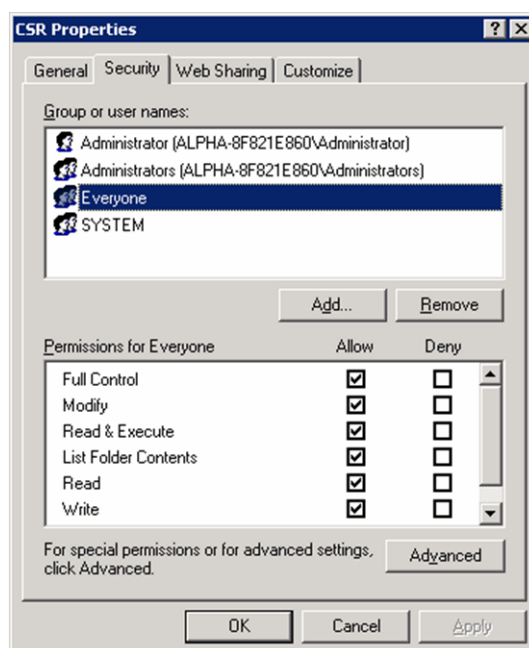

Figure 71: Folder Permissions
- 3 Assign full permission for the user Everyone to the CSR folder (see Figure 71) if required by the security settings of the operating system.